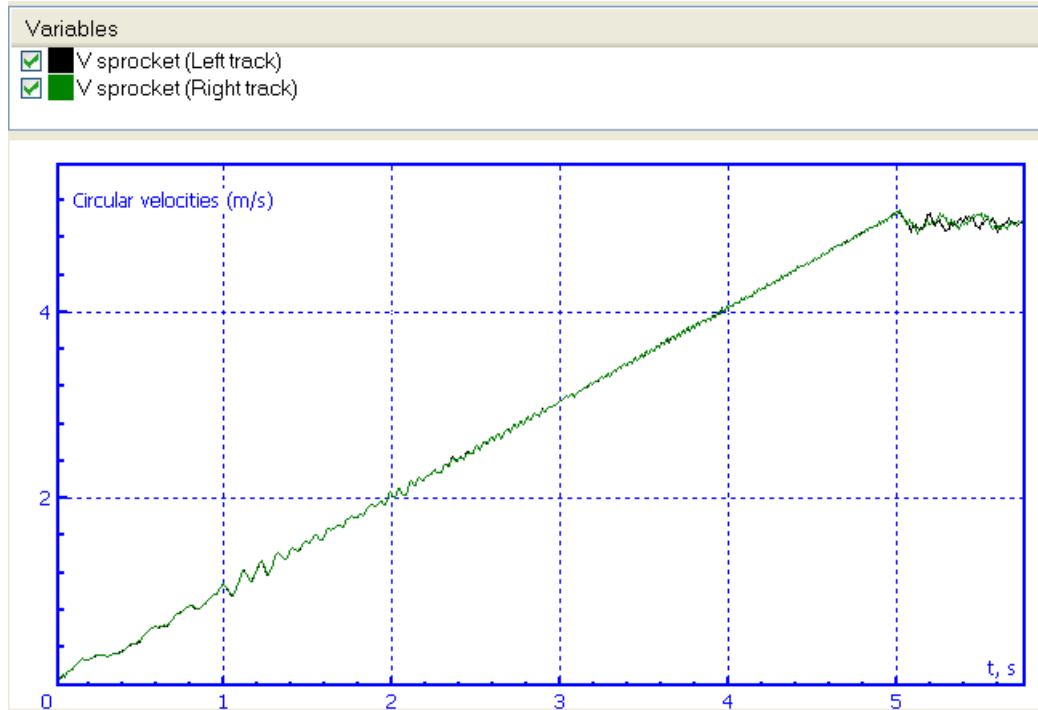

Figure 2.19. Circular sprocket velocities vs. time
- Run the test. The plot of circular sprocket velocities vs. time is shown in Figure 2.19.